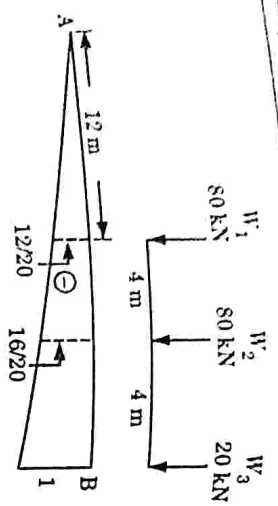

Fig. 4.18.2. ILD for maximum negative shear force.
i. 1st Trial : Place the loading as shown in Fig. 4.18.2.